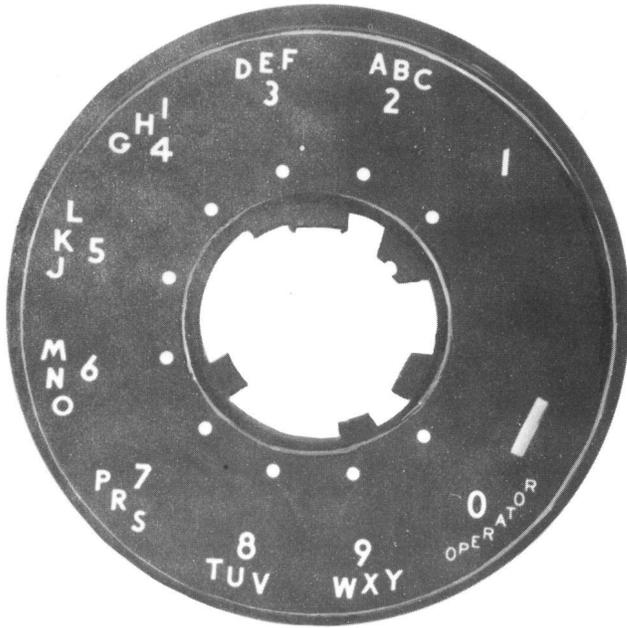
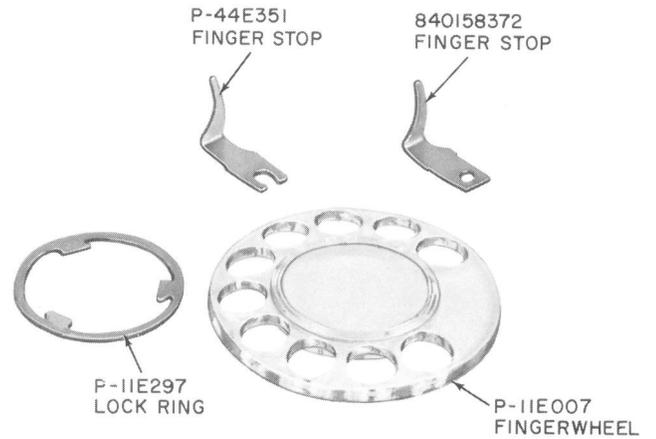

Fig. 1—Universal Dial Number Plate (840677000)
Fig. 4—9 Dial Adapter Parts
- (b) **9-Type Dial:** When a single letter code 9-type dial, such as 9C, is installed, a universal dial number plate (Table B and Fig. 1 and 2) along with a P-11E297 lock ring, P-44E351 fingerstop, and P-11E007 fingerwheel from a 9 dial adapter (Fig. 4) are required. When a multiple letter code 9-type dial, such as 9CA and 9CAM, is installed, a universal dial number plate (Table B and Fig. 1 and 2) along with an 840158372 fingerstop and P-11E007 fingerwheel from a 9 dial adapter (Fig. 4) are required. Provide a station number card
554B1M Includes 9 (Fig. 4) and 7 (Fig. 6) Dial Adapter Package	554B1- Includes Universal Dial Number Plate and P-17A422 Ring Assembly